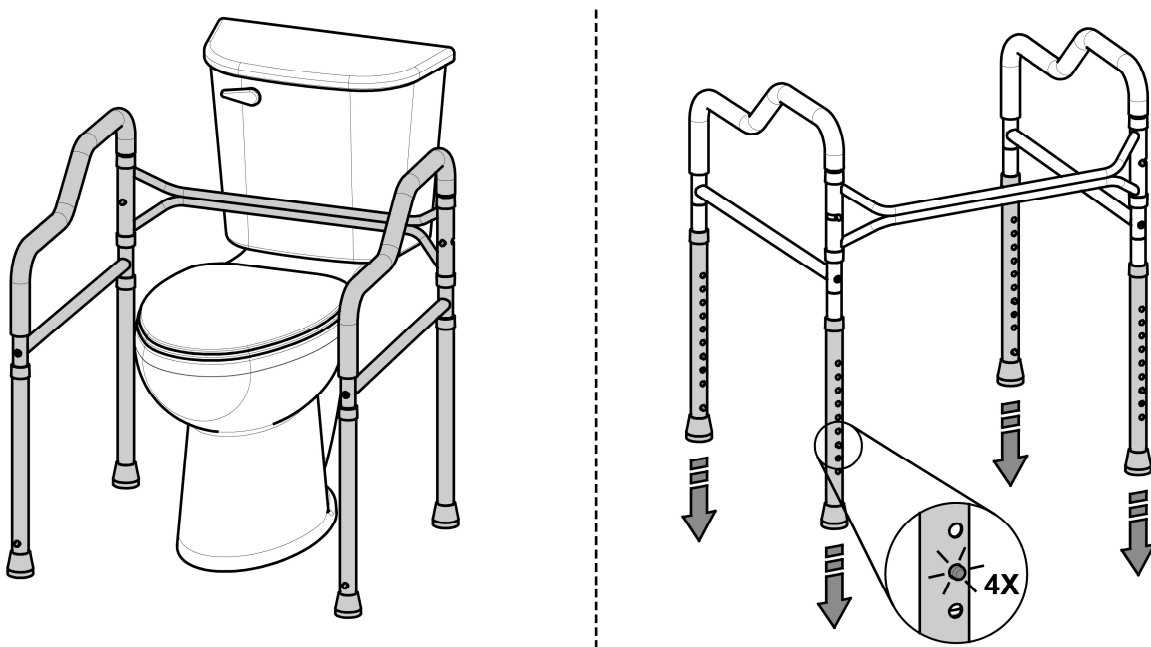

FIGURE 4
4. Place TOILET SAFETY RAILS over toilet and adjust legs to desired height as shown in *FIGURE 4*. Ensure adjustment spring pins are fully engaged and all legs are at the same height.